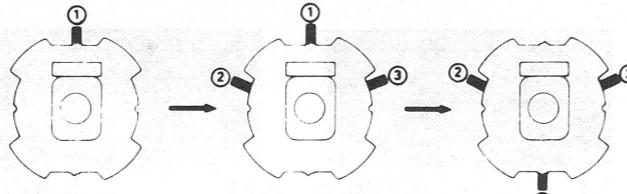
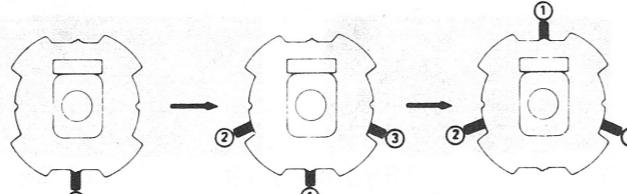

Figure 3a
Figure 4a
3. When the correct position has been found, place a rubber wedge between the CRT. If the yoke is tilted up, place wedge 1 as shown in Figure 3a; if it is tilted down, place wedge 1 as shown in Figure 4a.